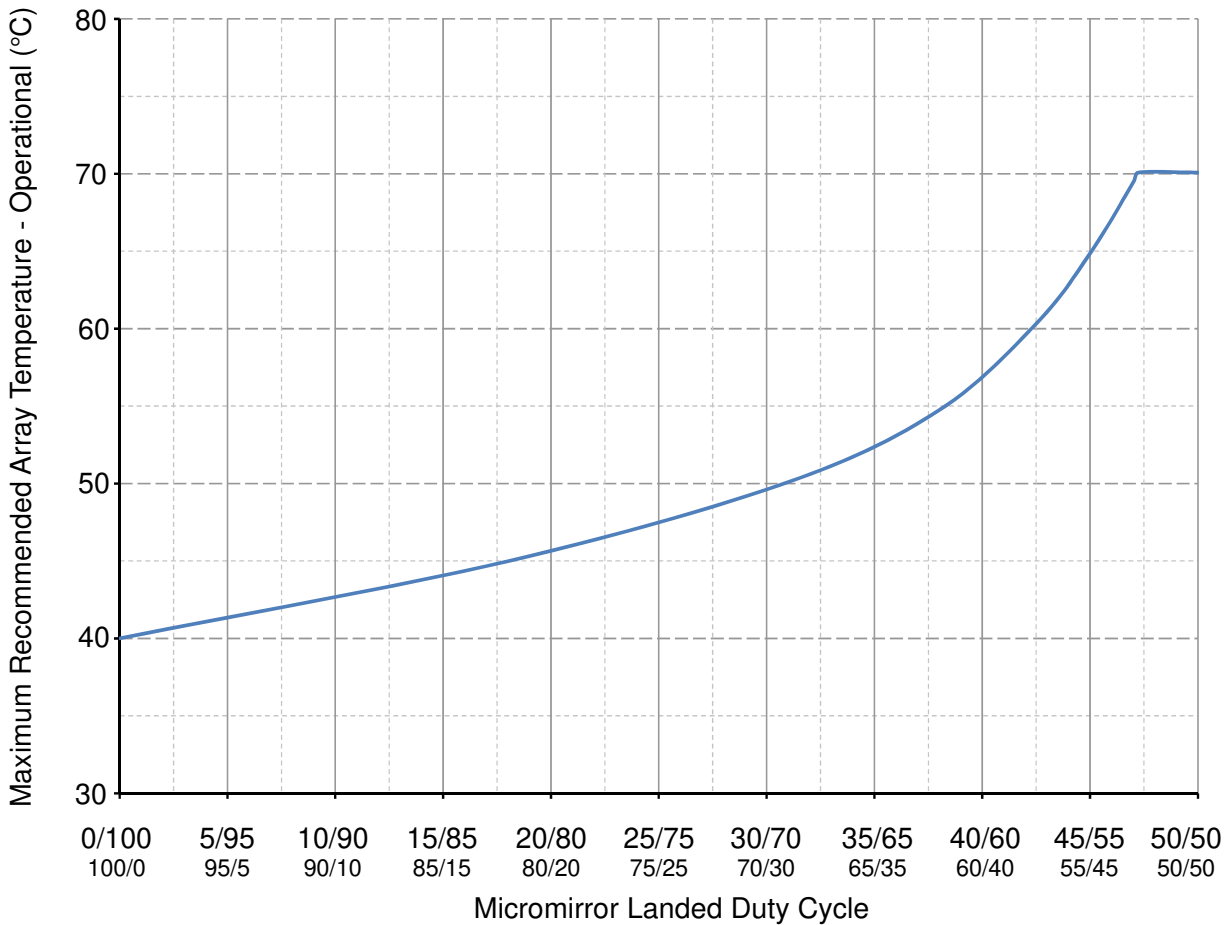

图 6-1. Recommended Maximum DMD Temperature—Derating Curve
- (13) Long-term is defined as the average over the usable life.
- (14) Per 图 6-1, the maximum operational array temperature should be derated based on the micromirror landed duty cycle that the DMD experiences in the end application. See 节 7.7.
- (15) Array temperatures beyond those specified as long-term are recommended for short-term conditions only (power-up). Short-term is defined as cumulative time over the usable life of the device and is less than 500 hours.